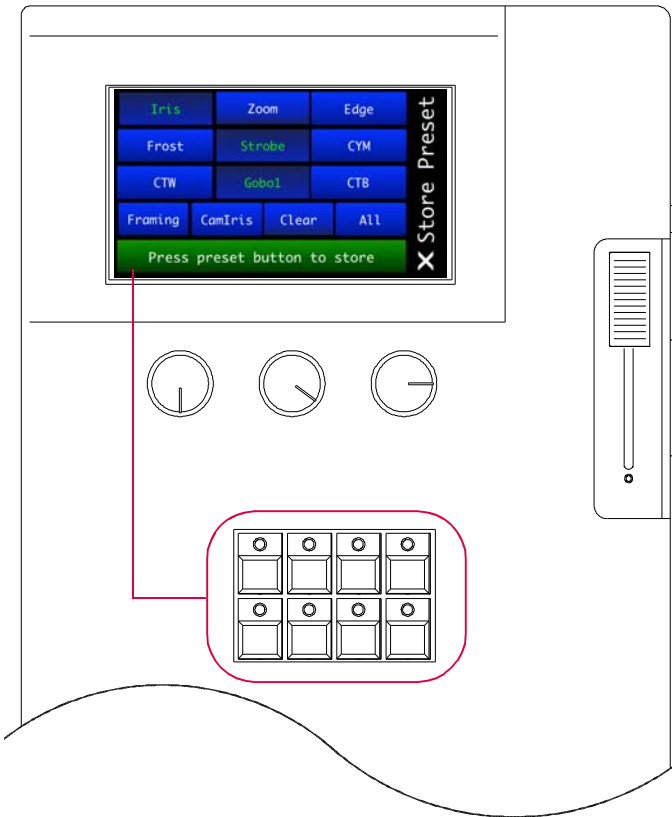

Figure 20: Preset Store Bank
- + Press panels to selected one or more mechanisms, then press the desired preset button on the Control Arm as shown in Figure 20.